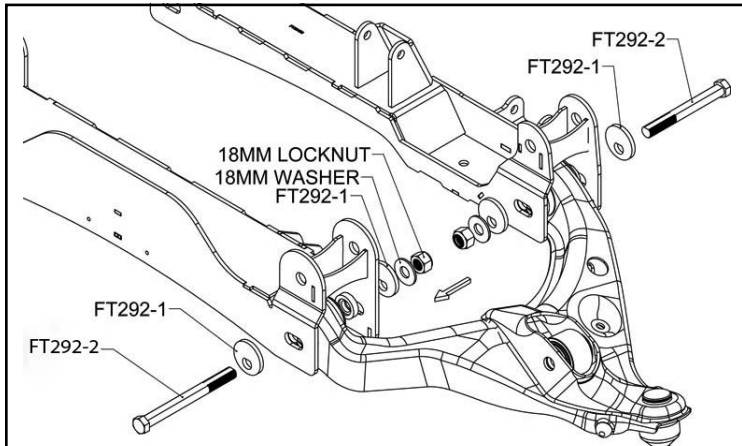

FIGURE 33 - STEP 32
32. Locate the Alignment cam kit (FT292). Locate the factory control arms. Install the lower control arms into the Fabtech crossmembers using the hardware in the cam kit (FT292). Torque the cam bolts at 200 ft-lbs after alignment. Torque crossmember bolts to 240 ft-lbs. **SEE FIGURE 33**